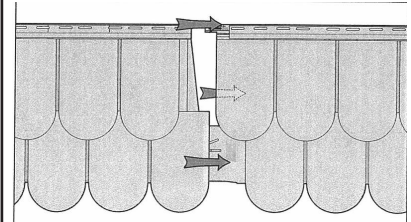

Fig.24
- b. Slide the next panel into position. The top half of the panel, except the Nail Hem, slides under, and the bottom half slides over the previous panel. The Nail Hem will be on top of the previous panel (Figure 24).